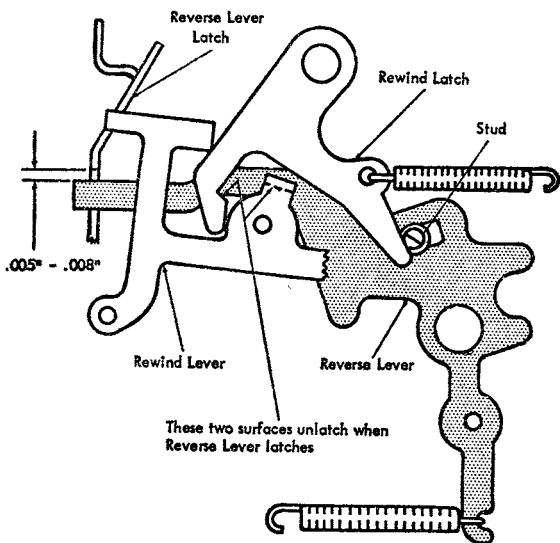

Figure 44. Reverse Lever Stud
**14. REVERSE LEVER STUD.** To insure winding the ribbon fully onto the left ribbon spool during rapid rewind, the rewind lever must not be released from its raised position before the reverse lever is latched (Figure 44). Position the stud in the reverse lever to release the rewind latch from the rewind lever, when the reverse lever has moved counter clockwise past its latch .005" to .008".